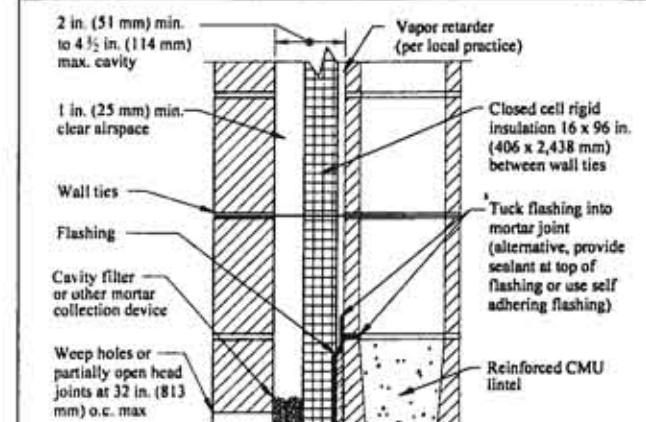

Figure 2—Flashing Cavity Walls at Boad Beam Locations
- Use flashing at all lintel and sill locations as per figure 2 and 3.